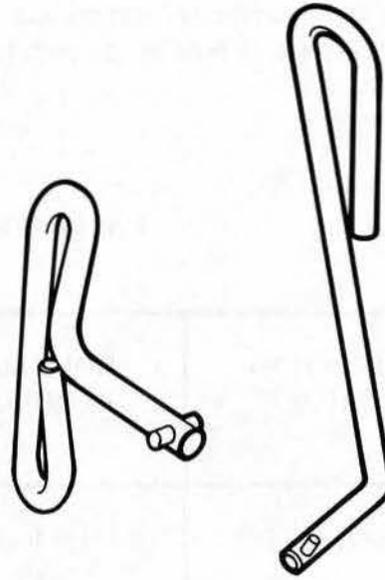

Fig. 8 — P0896911 and P0532301 Tools
Tool, P0896911	To remove hood, cover assemblies, and coin receptacle door. (The tool is shown in Fig. 8.)
Tool, P0532301	To remove hood, cover assemblies, and coin receptacle door where available space does not permit use of tool P0896911 (The tool is shown in Fig. 8.)
5.14 The cover is removed from the housing assembly as described in Chart 1, before installing the NE-22QD cover lock assembly. The P0532301 or P0896911 tool (Fig. 8) is used to unlock the hood and cover assemblies.